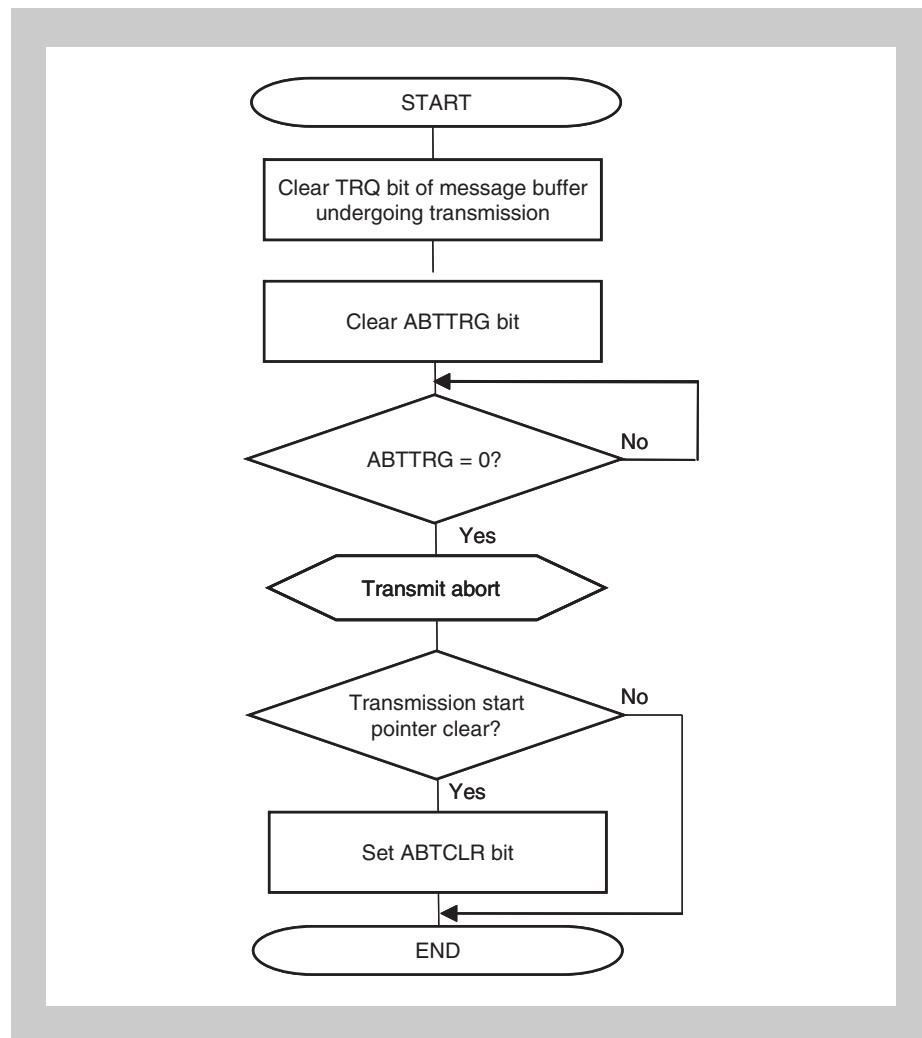

**Figure 20-47** Transmission abort processing (normal operation mode with ABT)
*Figure 20-47 shows the processing to skip resumption of transmitting a message that was stopped when transmission of an ABT message buffer was aborted.*
2. Make a CAN sleep mode/CAN stop mode transition request after the ABTTRG bit is cleared (after ABT mode is aborted) following the procedure shown in *Figure 20-47* or *Figure 20-48*. When clearing a transmission request in an area other than the ABT area, follow the procedure shown in *Figure 20-45* on page 805.
2. Make a CAN sleep mode/CAN stop mode request after the ABTTRG bit is cleared (after ABT mode is stopped) following the procedure shown in *Figure 20-47* or *Figure 20-48*. When clearing a transmission request in an area other than the ABT area, follow the procedure shown in *Figure 20-45 on page 805*.
**Caution** To abort transmission before making a request for the CAN sleep mode, perform processing according to *Figure 20-45 on page 805* and *Figure 20-47 on page 807*.